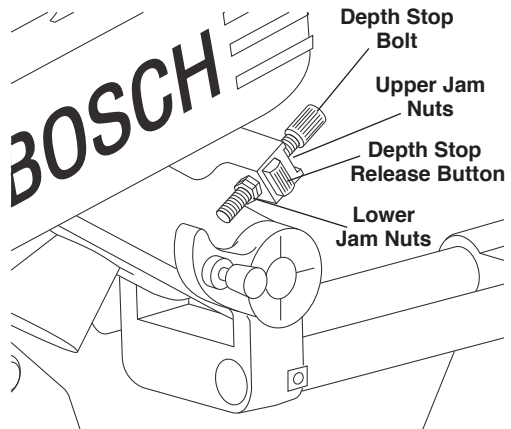

Figure 13. Depth Adjustment
1. Loosen and turn both of the lower Jam Nuts to just above the threaded end of the Depth Stop Bolt (Fig. 13).